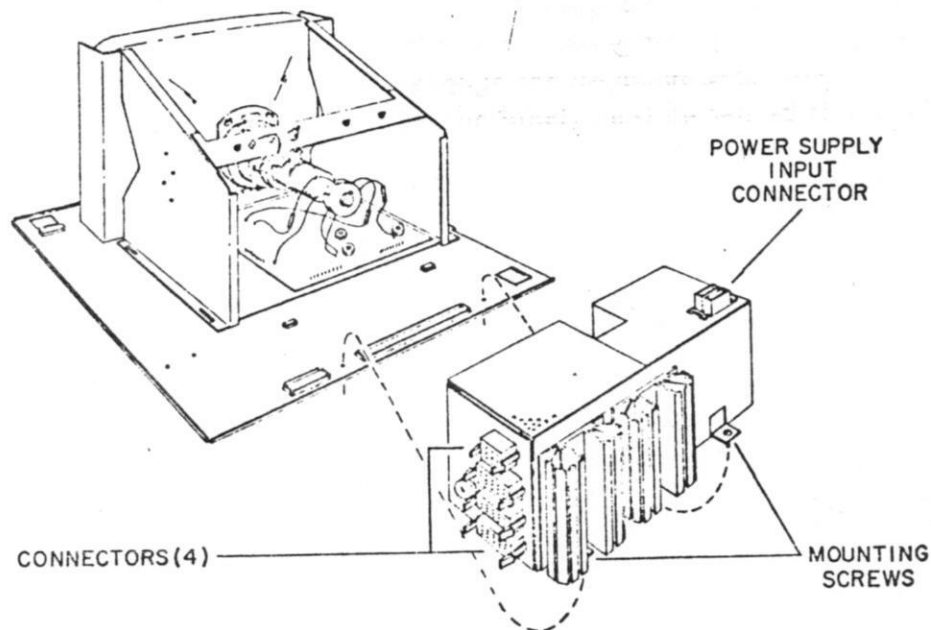

Figure 6-17. Power Supply Module Mounting
- Disconnect all cables from power supply module (see Figure 6-17).
- Remove two mounting screws from mounting tabs located at rear of power supply module (see Figure 6-17).
- Remove power supply input connector and feed cable through cutout in mounting plate (see Figure 6-17).